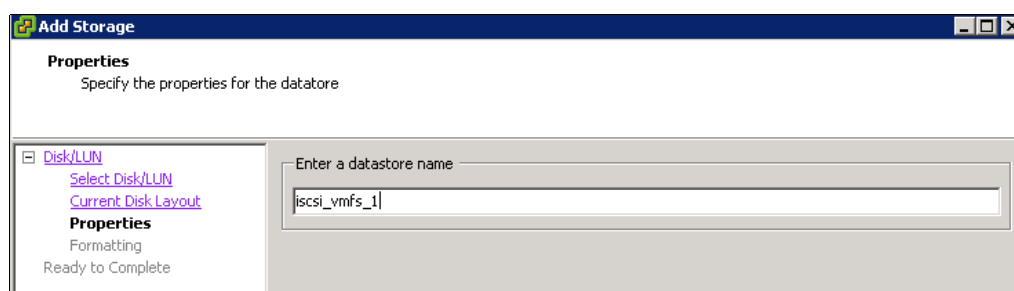

Figure 5-62 Enter a data store name
10. Enter a name for the data store and click **Next** (Figure 5-62).